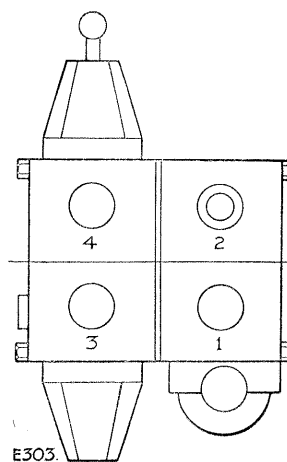

Fig. T-28—Rear view of control valve, showing sequence of pipe fitting
63. Connect the four hydraulic pipes to the control valve on the heel board as shown at Fig. T-28.
83. Connect the four hydraulic pipes to the control valve on the heel board in the sequence illustrated at Fig. T-28.